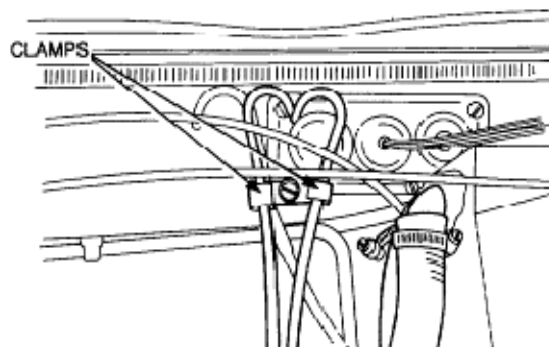

Figure 64 Breather Hose Removal From Firewall
- f. Remove the clamp securing the two hoses to the firewall (Figure 64).